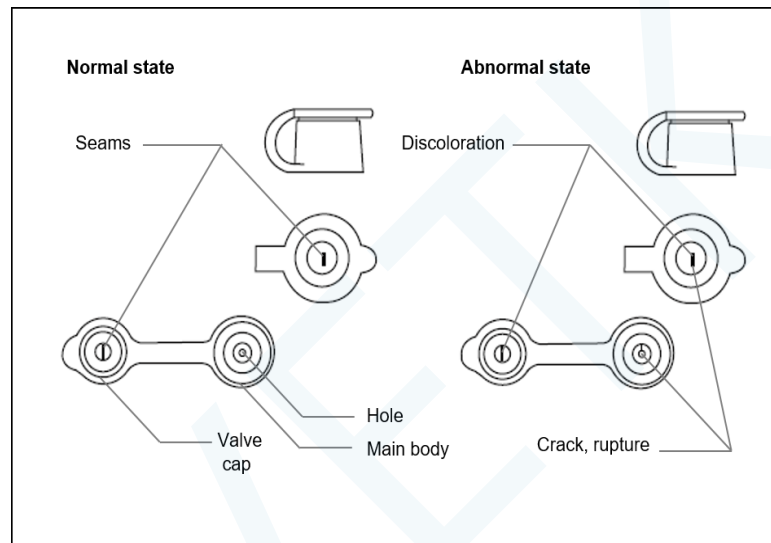

Figure 3.9
1. Check that there are no cracks, ruptures deformations, or other damage in the seams and hole of the biopsy valve (Figure 3.9).